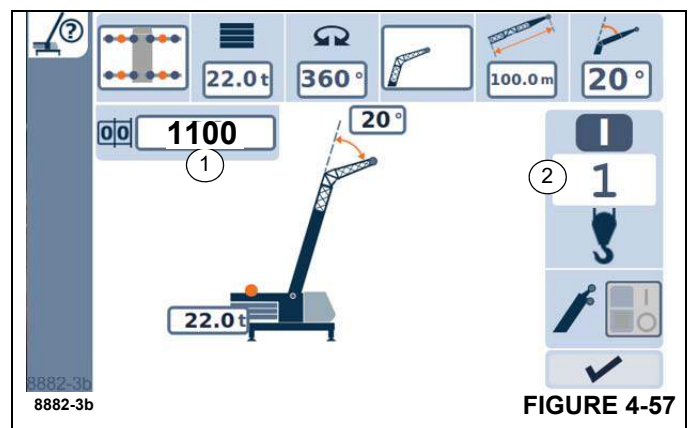

FIGURE 4-57
Display (1), (Figure 4-57) will show RCL code 1100 – the corresponding rigging mode will be displayed.
The display (2), (Figure 4-57) shows the last reeving entered, e.g. 1.